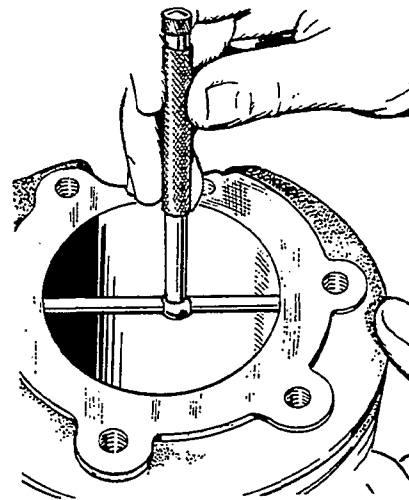

FIGURE 69. METHODS OF MEASURING THE DIAMETER OF A CYLINDER BORE
2. Record measurements taken at top and bottom of piston travel as follows (Figure 69):